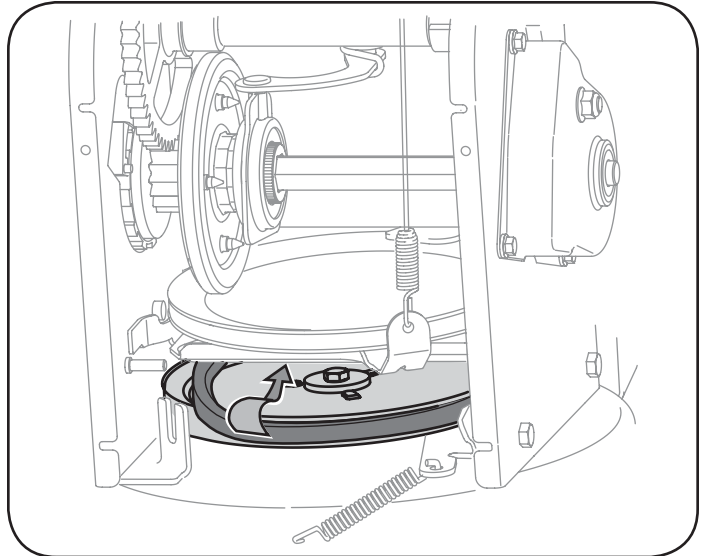

Figure 35
7. Remove the belt from around the auger pulley, and slip the belt between the support bracket and the auger pulley. See Figure 35.